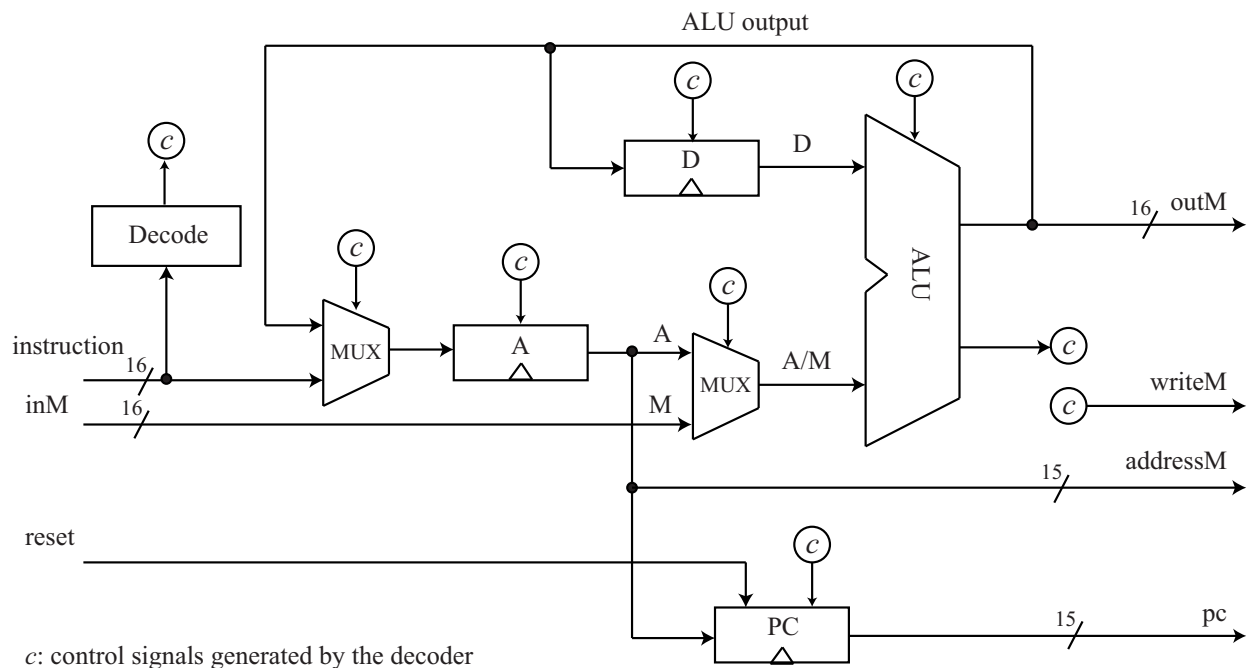

Fig. 2: Datapath for the Hack CPU showing the data and address paths.
2. (25 points) Using the supplied `CPU.hdl` file as the starting point, build the datapath for the Hack CPU using the blueprint in Fig. 2. Use built-in chips for the A and D registers, PC, and for the ALU. Built-in versions of the A and D registers, `ARegister` and `DRegister`, respectively, function exactly the same as the parallel-load registers you have built previously, but with the added benefit of a GUI that allows you to inspect register contents during program execution.
I implemented the datapath in about 30 lines of HDL code. Wiring the various datapath components as shown in Fig. 2 is relatively straightforward. In terms of designing the decode logic, a separate “decoder” chip is not necessary. Rather determine how to decompose the various bit-fields in the incoming 16-bit instruction to generate the control signals, circled in ‘c,’ for the various datapath components. In some cases, you must implement simple Boolean circuits using basic built-in gates to generate these signals. To determine the various control signals, use the following two pieces of information: what type of instruction is it (A or C)?; and what do the bits corresponding to the various instruction fields (`comp`, `dest`, and `jump`) indicate?